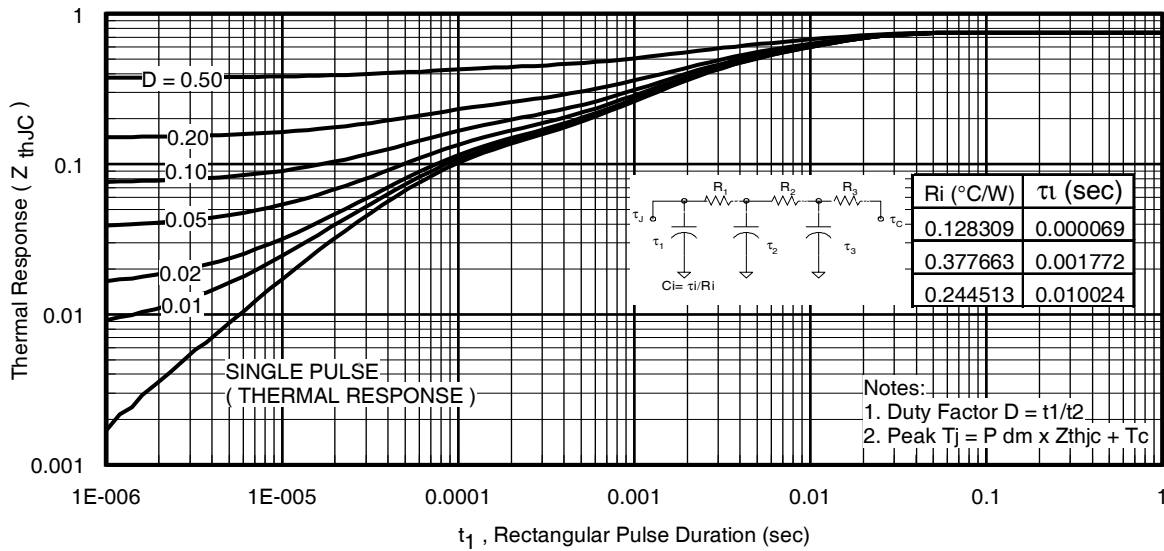

Fig 11. Maximum Effective Transient Thermal Impedance, Junction-to-Case
- ① Repetitive rating; pulse width limited by max. junction temperature. (See fig. 11)
- ② Starting $T_J = 25^\circ\text{C}$, $L = 0.46\text{mH}$